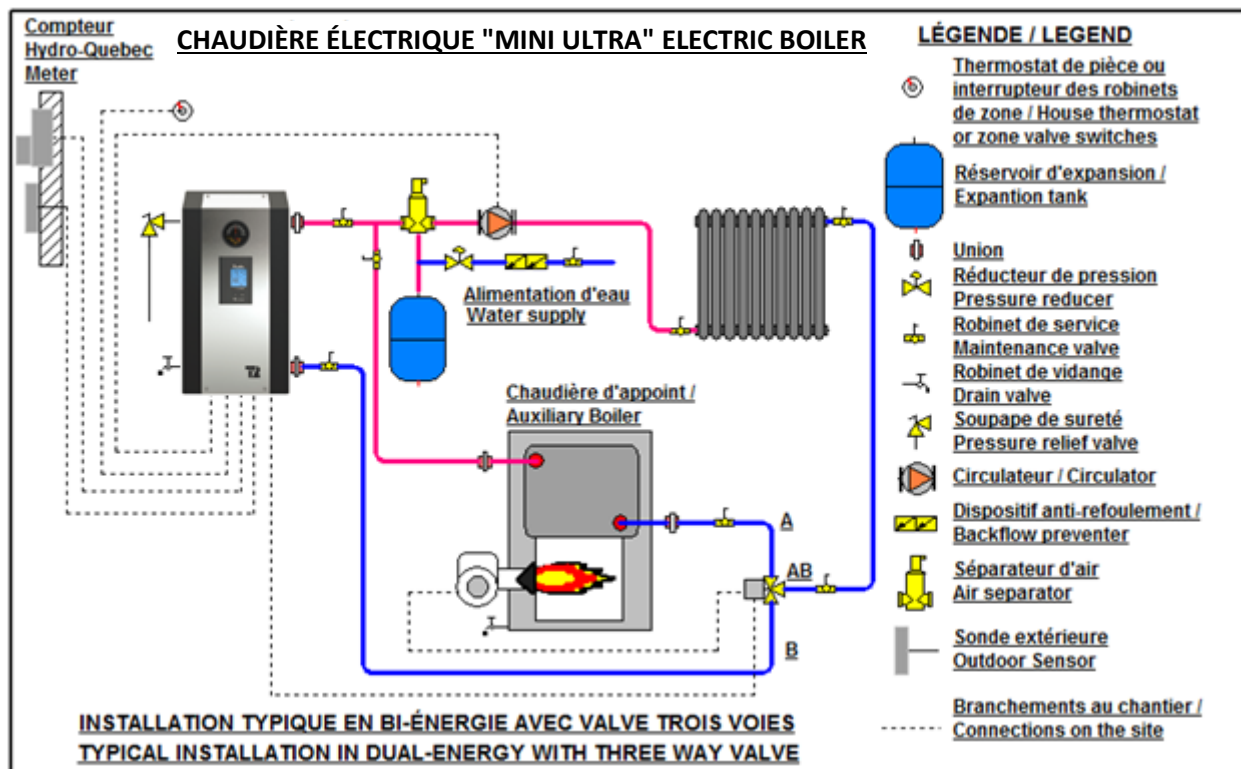

Figure 6 : Typical installation for dual-energy with three-way valve (USA models only)
N.B.: Make sure to select the appropriate port A, B and AB when making the connection of the piping (see fig.6)